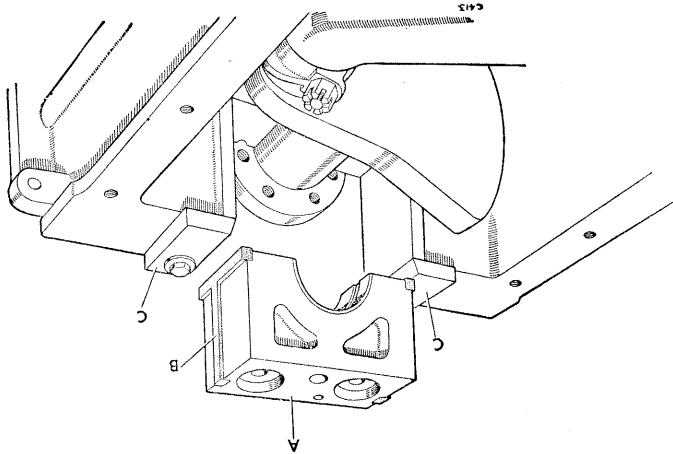

Fig. A-71—Fitting rear bearing cap and seal assembly
16. Fitment of the rear main bearing cap, with side seals in position, will be facilitated by using a lead tool (Part No. 270304) fitted to the sump studs adjacent to rear bearing cap aperture. See Fig. A-71.